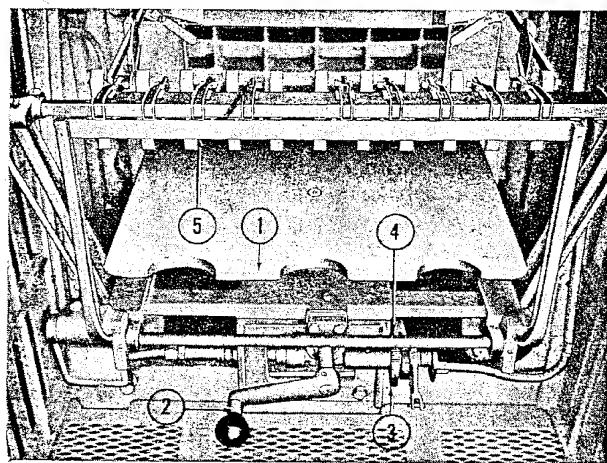

Figure 32—Delivery Table
(1) HOW TO SET LOWERING OF DELIVERY TABLE.—(See figure 32).—The delivery table (1) may be raised or lowered manually by turning the delivery table crank (2). The crank must be pushed in when raising or lowering the table. When starting a job, the delivery table should be raised to its highest position.
The distance the table lowers at each press impression is controlled by the setting of the delivery table set wheel, (3) figure 32. The setting of the delivery table set wheel is dependent upon the thickness of stock being run. When starting a job, run the press until delivery pile has built up to about 1", then set delivery set wheel by engaging the set wheel spring, (4) figure 32, with the notch in the set wheel that will give the required amount of delivery table drop for the stock being run. With a little experience the operator will learn the correct settings for the various thicknesses of stock.
To remove pile from delivery table, lower the delivery sheet stop finger bar, (see (5) figure 32).